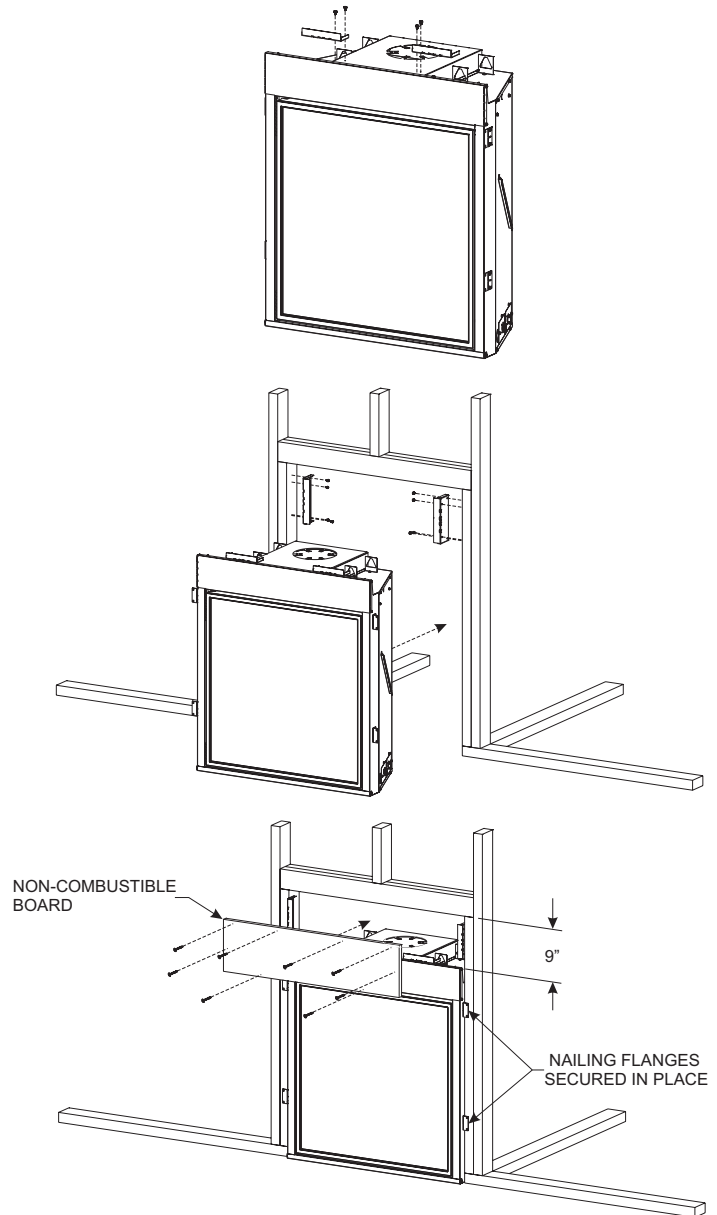

Figure 29
9. Attach the two backer stud brackets to the firebox with four #10 x 1/2 Phillips screws (provided) as shown in **Figure 29.**
10. Attach the two stud brackets to the vertical studs with four screws appropriate for installation (not provided) as shown **Figure 29.**
12. Mark non-combustible board for backer stud bracket locations. Place non-combustible board in place and secure with four #8 x 1 self-drilling drywall screws (provided) and three screws appropriate for installation(not provided) as shown in **Figure 29.** To avoid damage to the non-combustible board, do not use more screws.